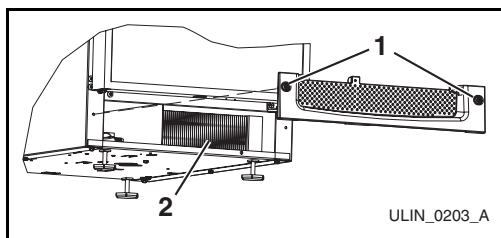

Figure 10
2. Loosen two screws (**Figure 10,1**) completely.